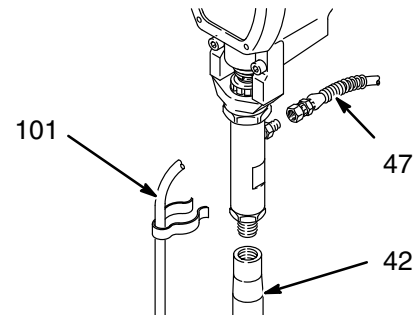

Fig. 12
2. Remove the hose (47), clips and drain tube (101). Remove the suction tube (42); hold the wrench on the pump intake valve (223) to keep the pump from loosening. See Fig. 12.